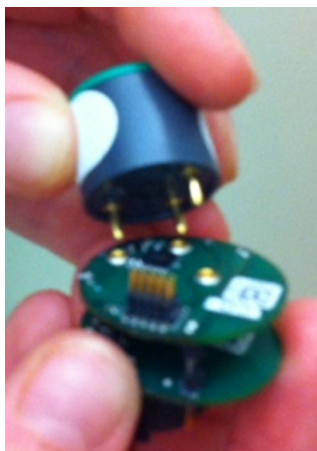

Figure 9. Installing the Sensor on the Platform
1. Install the sensor onto the platform (see Figure 9).